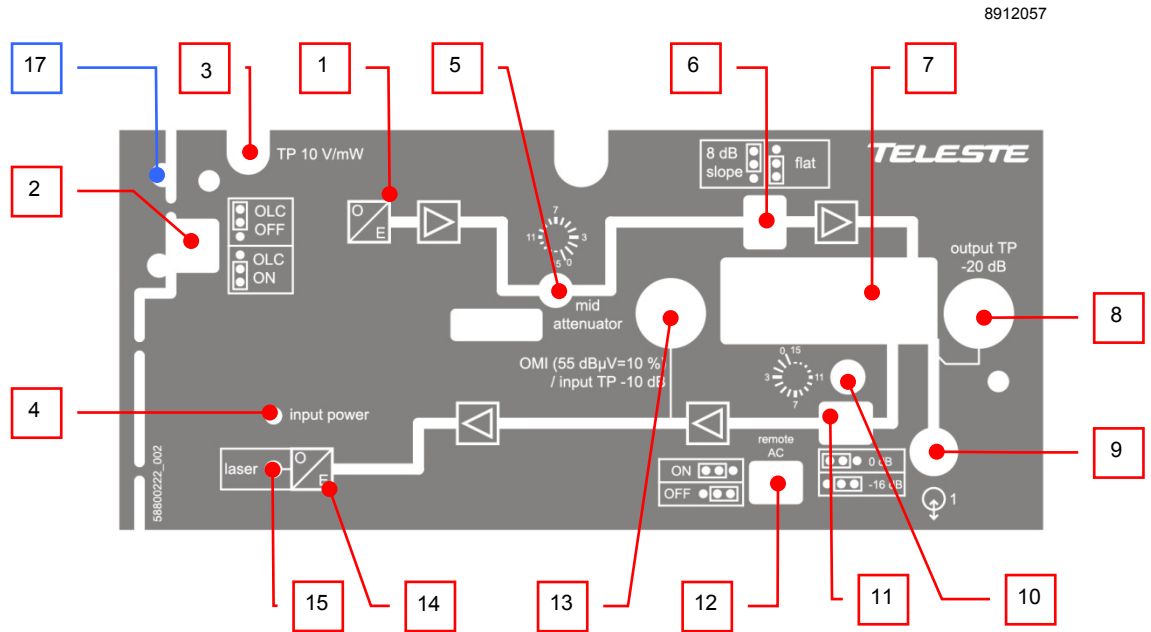

Figure 4. CXE880 front panel
The supply voltage of the remote powered amplifier (26...65 V AC or \pm 30...90 V DC) can be fed through the RF output port (Figure 4 pos. 9). Make sure the remote powering jumper (Figure 4 pos. 12) is in correct position for remote powering. Refer to Figure 4. External power can also be fed through the amplifier into the network by moving remote powering jumper to "ON" position. Maximum feed-through current is 2 A.
When equipped with an optional status monitoring card the node continuously monitors internal temperature, local and remote supply voltages, optical input power, laser current, lid status and statistics of power failures. Measurement results and status information is transmitted using 10.7 MHz FSK data link to e.g. HDO203 data receiver. The two first mentioned parameter statuses are also indicated with the LED indicator (Figure 4 pos. 17). The following table further describes behaviour of the LED. During the power-up sequence the LED will display yellow light for a short period of time to indicate that the LED is functional. The LED blinking indicates that packets are sent on the FSK link.
Return path attenuation mode jumper (Fig. 4 pos. 11)
Remote powering jumper (Fig. 4 pos. 12)
Optical input power can be measured from the optical power DC voltage test point (Figure 4 pos. 3). The test point DC voltage is directly proportional to optical input power in mW e.g. 10 V corresponds to 1.0 mW average optical power for 1310 nm. Table below shows the correct measurements at the test point using a 1310 nm or 1550 nm transmitter.
The mainboard provides also a LED indicator (Figure 4 pos. 4) which gives a visual indication of the optical input power.
3. Optical Level Control (OLC) circuitry provides gain control that compensates for changes in input level caused by external variations. The available gain reserve is factory-set for optimum operation. If needed the output level can be adjusted with the midstage attenuator. You can however, set an internal jumper (Figure 4 pos. 2) to disable the OLC. This enables you to operate the CXE880 optical receiver at full gain for applications that do not require gain stabilization.
5. Use the response mode jumper (Figure 4 pos. 6) to select the midstage slope. Available options are "flat" or "8 dB sloped".
A diplex filter (Figure 4 pos. 7) is selected during configuration according to the preferred frequency split.
The return transmitter is aligned in production eliminating the need for any user adjustments. The level of return signal can be measured from the optical transmitter's OMI test point (Figure 4 pos. 13). In shielding cover of the CXE880 is described the fixed RF driving level at the OMI test point that gives 10% OMI. The return signal level should be adjusted to match this level. Table below shows the RF drive levels for different OMIs. The signal level is adjusted with the return path attenuator (Figure 4 pos. 10). The adjustment range is 15 dB. The attenuation can be approximately doubled with the return path attenuation mode jumper (Figure 4 pos. 11). Thus, it is possible to achieve higher attenuation with a maximum amount of 31 dB.
The mainboard provides also a LED indicator (Figure 4 pos. 15) which gives a visual indication of the laser bias current.